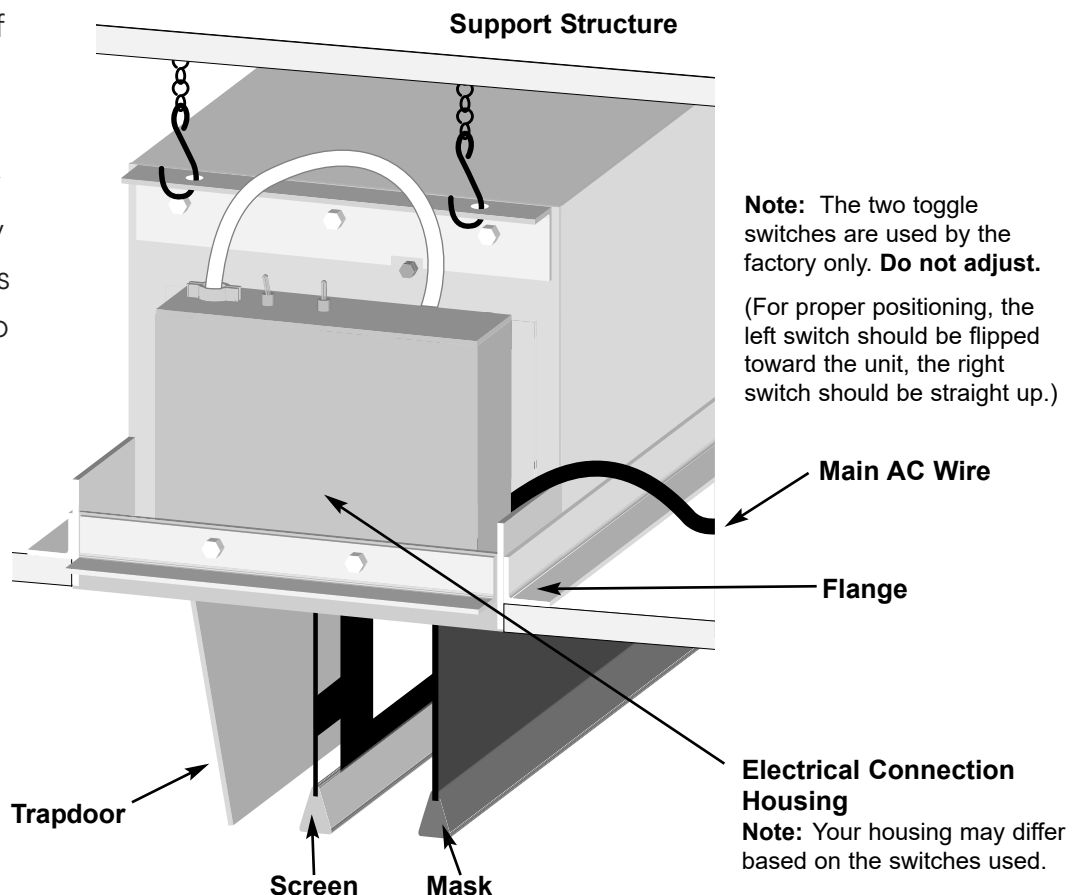

Figure 3: Electriscreen-side view
4. Drywall or other ceiling material may be screwed directly to the ceiling flanges on the case. Refer to Figure 3.